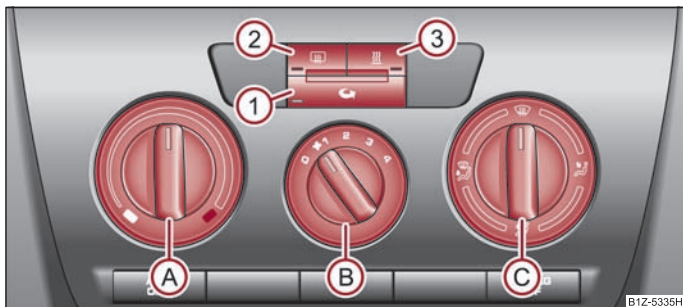

Fig. 106 Heating: Control elements
- Turn the control dial (A) ⇒ fig. 106 to the right in order to increase the temperature.
- Turn the control dial (A) to the left in order to decrease the temperature.
- Controls Ⓐ, Ⓑ, Ⓒ and the button ① ⇒ page 92, fig. 106.
- Press the button  - the warning light lights up in the button \Rightarrow page 92, fig. 106.
The recirculated air mode is switched off automatically if the air distribution control  is in position  \Rightarrow page 92, fig. 106. You can also switch recirculated air mode on again from this setting by repeatedly pressing pushbutton .